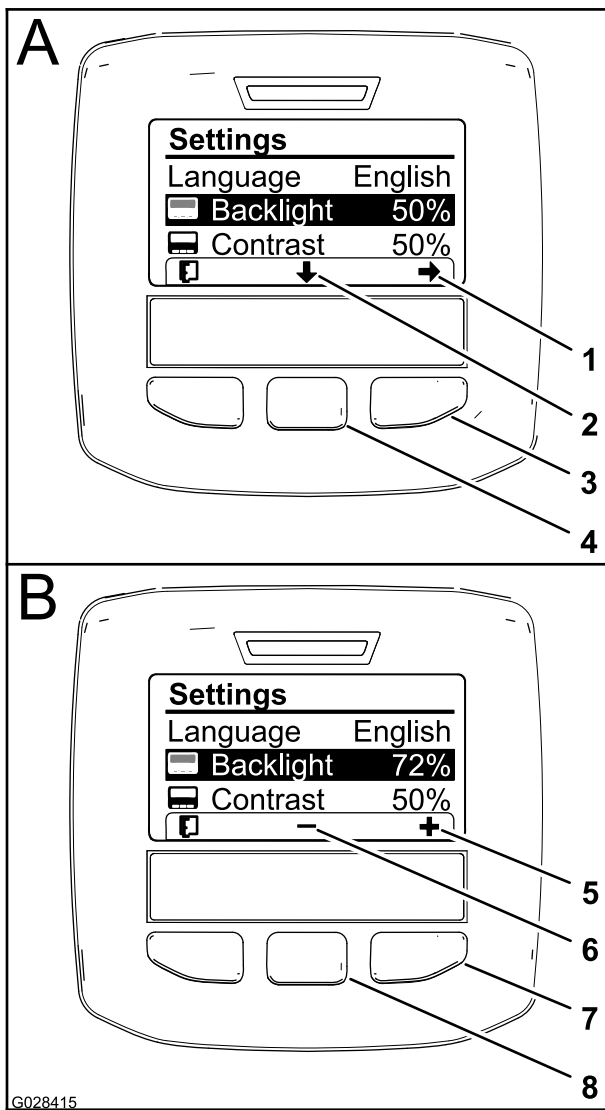

Figure 63
2. To adjust the backlight level of the display, press the center selection button (the button below the down arrow icon in the display) to move the selected option down to the Backlight setting (Figure 63).
- Press the right selection button to display the value adjustment context (Figure 63).
- Use the center selection button and right selection button to change the brightness level of the display (Figure 63).
selection, exit the Backlight menu, and return to the Settings menu (Figure 63).
- To adjust the contrast level of the display, press the center selection button (the button below the down arrow icon in the display) to move the selected option down to the Contrast setting (Figure 63).
- Press the left selection button (the button below the list icon in the display) to save your selection, exit the Contrast menu, and return to the Settings menu (Figure 63).
- Press the left selection button to exit the Settings menu and return to the Main Menu (Figure 61 and Figure 63).
- Press the left selection button to return to the Home screen (Figure 63).